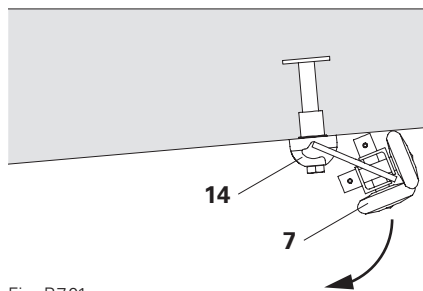
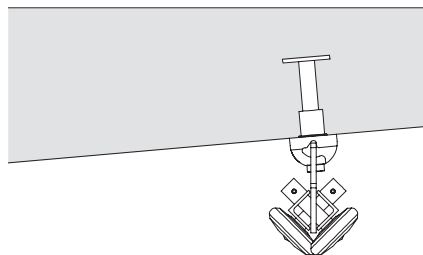

Fig. B7.01a
Fig. B7.01b
1. Push the Roller Unit VARIOKIT (7) into the Suspension Anchor M24 VARIOKIT (14) sideways. (Fig. B7.01a)
2. Swivel the Roller Unit VARIOKIT (7) downwards.
The Roller Unit VARIOKIT (7) pivots into the vertical end position as a result of gravity. (Fig. B7.01b)